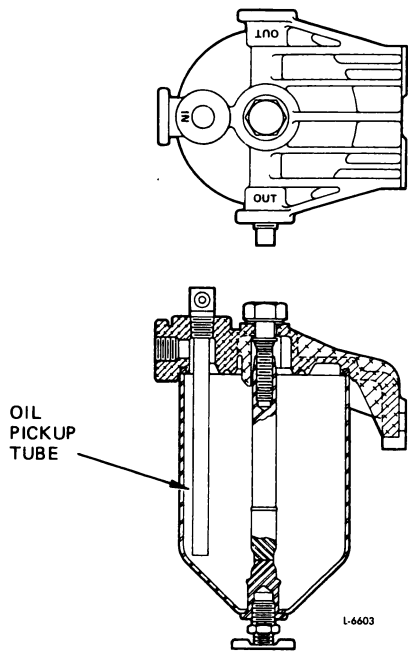
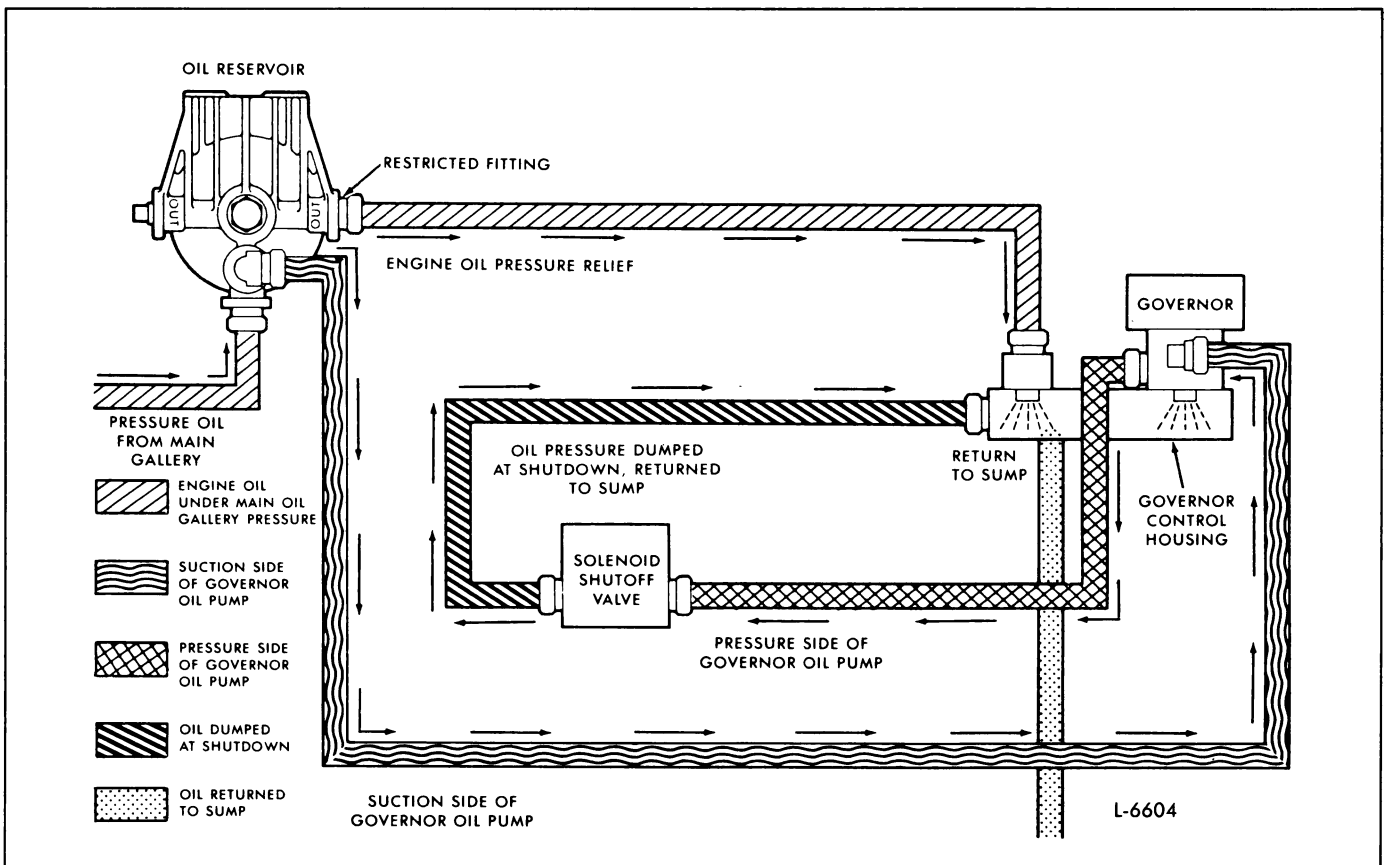

Fig. 3 - Oil Reservoir Assembly with Pick-up Tube
Fig. 4 - Oil Flow Schematic - SG Hydraulic Governors
- An oil pickup tube is installed in the top inlet hole of the cover on the oil reservoir assembly and extends down into the reservoir (Fig. 3). An oil supply line is connected between the fitting on the pickup tube and the hydraulic governor oil pump inlet (Fig. 4). A restricted fitting is screwed into one of the "OUT" openings on the cover (the other "OUT" opening is plugged). A line is connected between this restricted fitting and a fitting on the governor control housing. An oil return line runs from the governor oil pump outlet to a solenoid shutdown valve. Another line is connected between the shutdown valve outlet and a fitting on the governor control housing.
•NOTICE: Because of its importance to engine starting, technicians servicing or rebuilding this system should always make sure that the oil pickup tube is placed in the reservoir and that oil supply and return lines are properly routed (Fig. 4). *Under no circumstances should a filter element be installed in the reservoir.* The oil reservoir/shutdown valve system should be tight and free of leaks to avoid the entrance of air or the possibility of siphon action depleting the reservoir oil supply. All electrical connections on the shutdown solenoid valve should be properly wired and securely fastened.